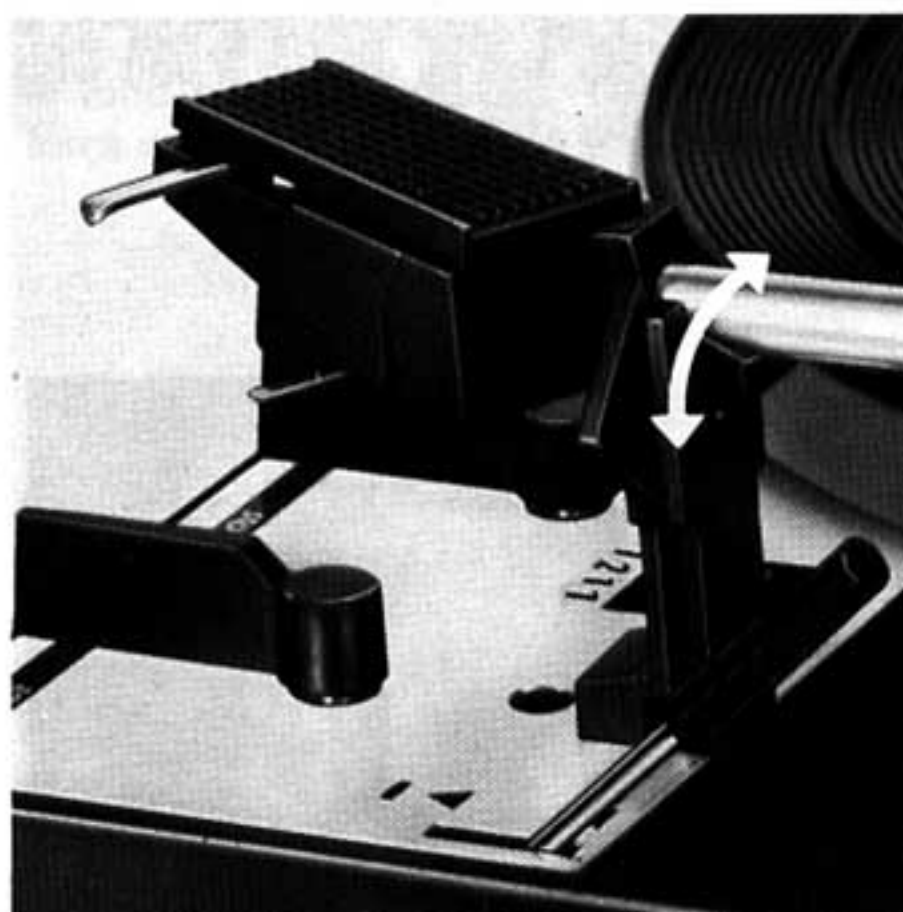

Fig. 7
**Note:** At the end of a record, or at the end of the last record of a stack, return of the tonearm and switch-off are automatic. It is advisable to lock the tonearm in place (Fig. 7) after turning off the system.
Select the appropriate turntable speed ②, set the record size selector ⑬ to 7", 10" or 12" resp. (12, 25 or 30 cm), depending on the size of the record you want to play, and unlock the tonearm (Fig. 7).